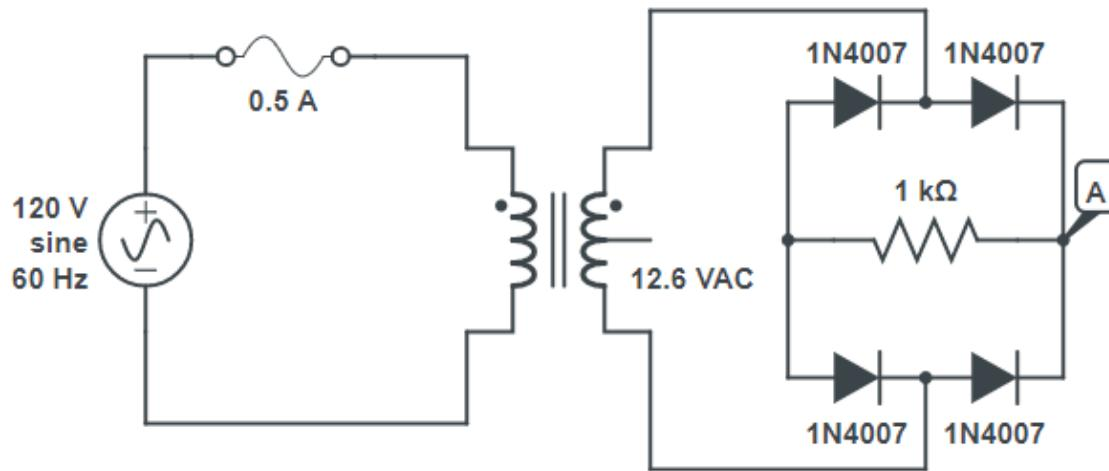

FIGURE 3-1: Full-Wave Bridge Rectifier Circuit
1. Wire the full-wave bridge rectifier circuit according to Figure 3-1. Be sure to pay close attention to the polarities of all four of the 1N4007 diodes and the connections to the 120 V primary side of the transformer. The center-tapped lead will not be used for this section.